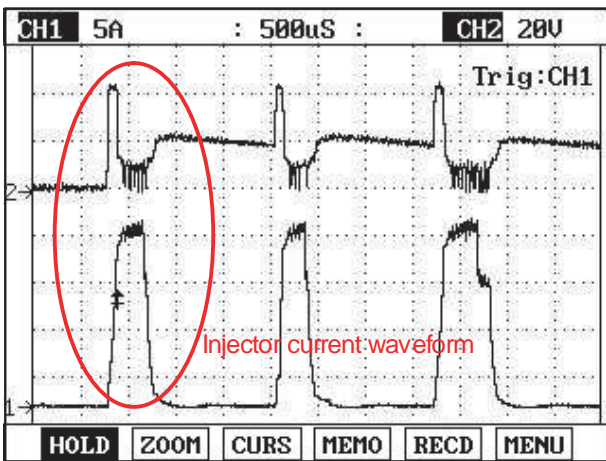
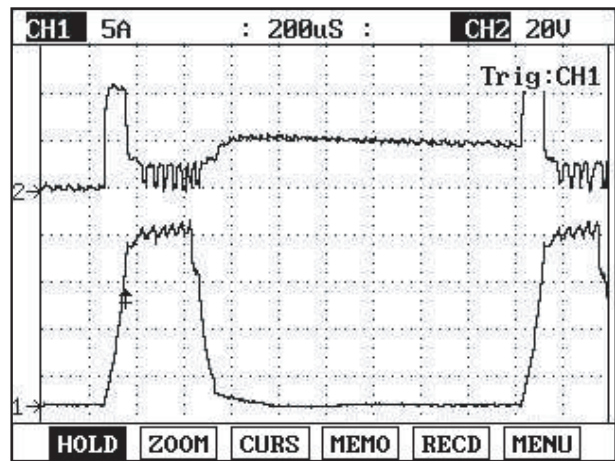

Fig.3
Fig.4
- Fig.3) Injector voltage and current waveforms are measured at the same time using current prove of scope meter.
- Fig.4) Magnified waveform of pilot injection at Fig.3)